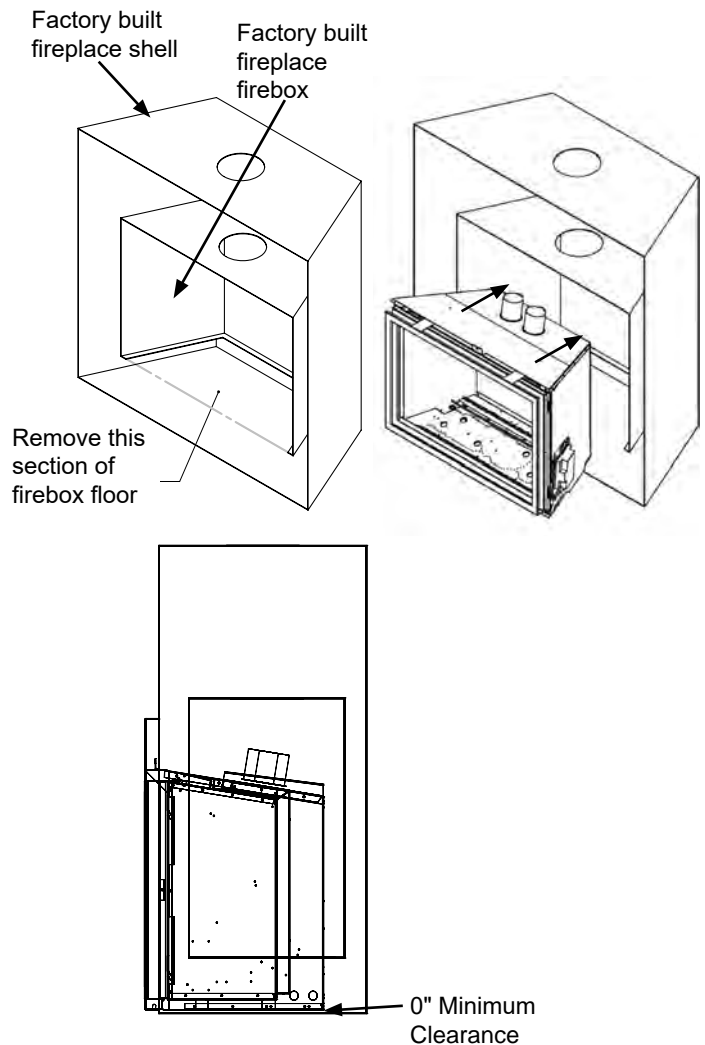

Figure 9.1.02: Removing the Metal Floor
The metal floor (J) may be removed to allow additional room for installation of the insert as long as it does not compromise the structural integrity of the existing fireplace (See **Figure 9.1.02**).